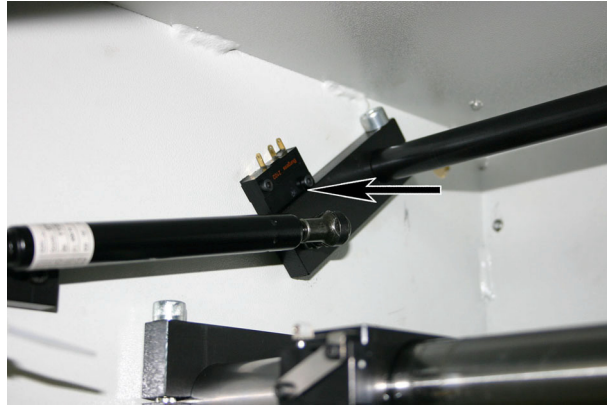

Fig. 2
- ⇒ Fastening (gas pressure spring) fits on the limit switch (Fig. 2, arrow).
- ⇒ Gas pressure spring is retracted (Fig. 2).